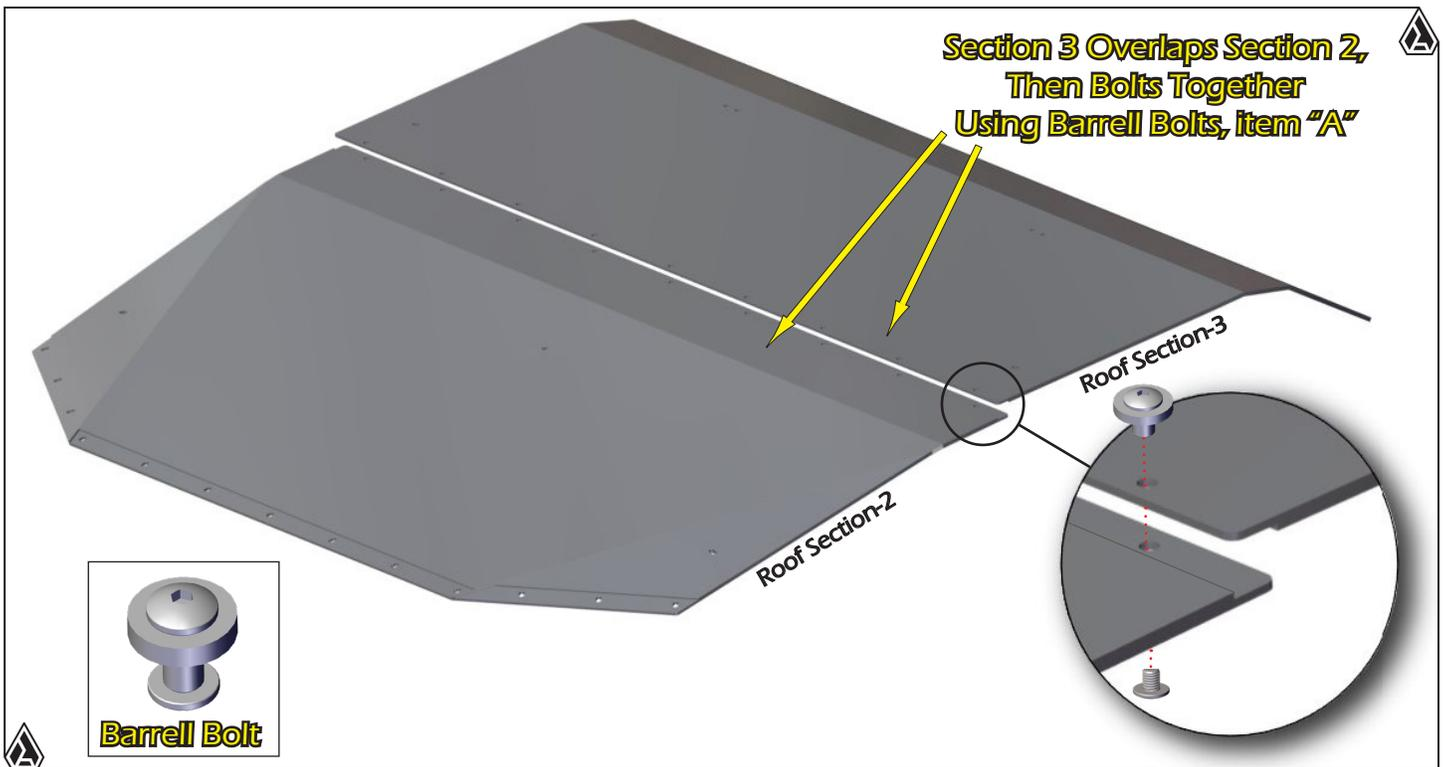

FIG.8B
11. Once the first two sections have been assembled, now you need to attach the rear panel (section-3) to the other two. There are no metal brackets to use for this joint. These simply overlap each other and are assembled together using the same **Barrell Bolts (item "A")** as you used on the other two. **Fig.8b** shows how the panels attach together and overlap.